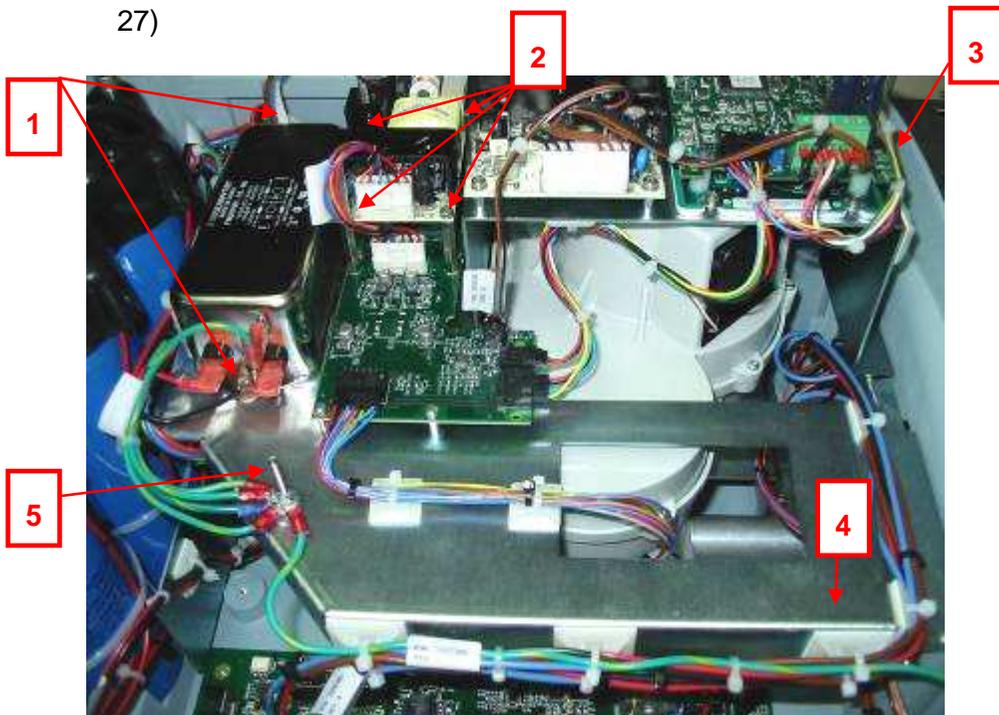

Figure 27: PS Charger – Screw Placement
4. Remove/Loosen the screws from the metal plate and 12VPS (Figure 27)